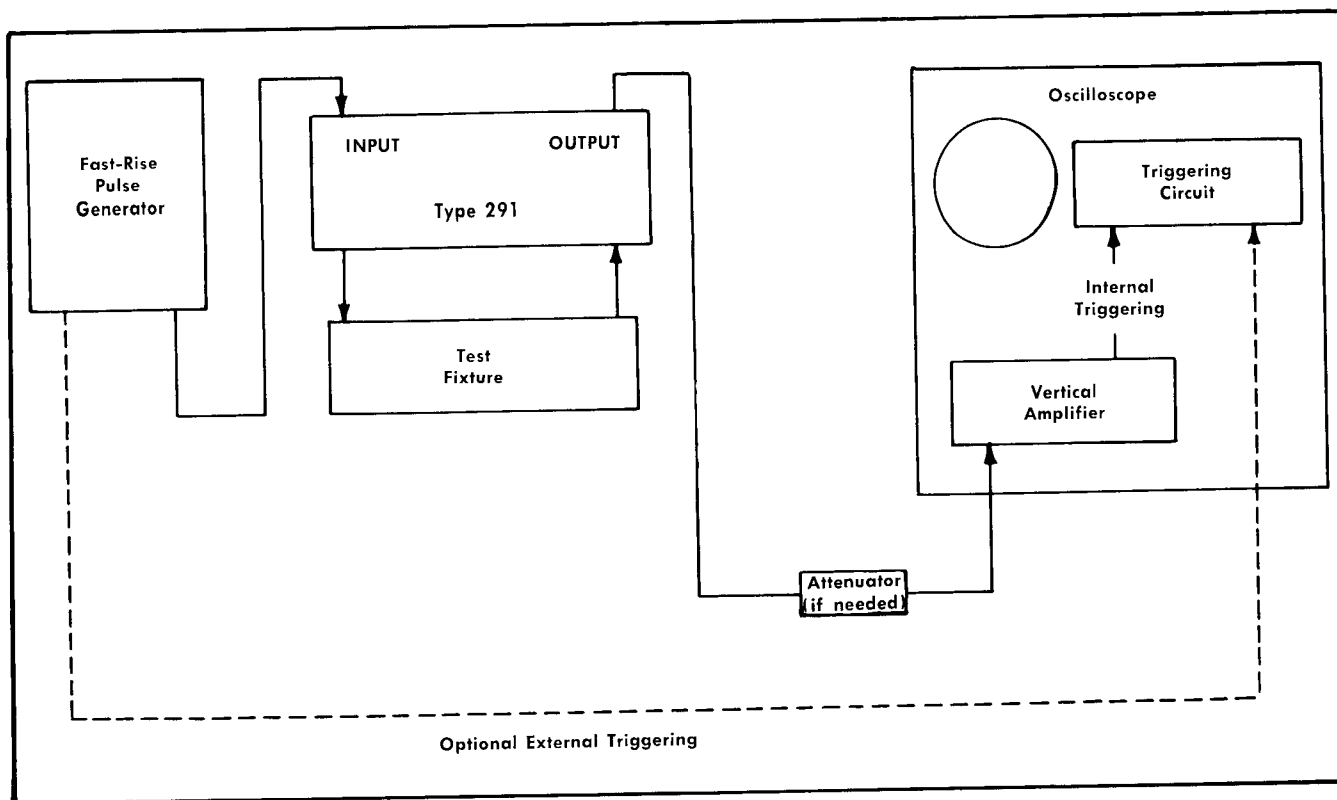

Fig. 3-3. Basic test system.
In addition to the Type 291 Diode Switching Time Tester and test fixture, a fast-rise pulse generator, and an oscilloscope is required (see "Pulse Generator and Oscilloscope Requirements"). The basic test system is shown in Fig. 3-3. The oscilloscope is dc coupled, and 50-ohm coaxial cables are used throughout the system. To eliminate possible reflected pulses in the recovery display, the time delay in the cable between the pulse generator and Type 291 should be longer than the recovery time of the diode under test. If the pulse generator has a trigger output, it can be used to externally trigger the oscilloscope.
the Type 291 and the oscilloscope, as shown in Fig. 3-3. However, with an attenuator between the Type 291 and the oscilloscope, the current sensitivity is reduced by the attenuation factor. For example, if a 10X attenuator is used, each millivolt displayed equals 200 microamps of diode current.
1. With the test equipment connected as shown in Fig. 3-3, short across the test fixture by inserting a piece of wire as you would a diode.
1. Connect the test equipment as shown in Fig. 3-3 (the pulse generator is not needed for this procedure, but is necessary when measuring diode switching characteristics), and set the Type 291 CURRENT VARIABLE control to CALIB. and the CURRENT mAMPS control to 10.